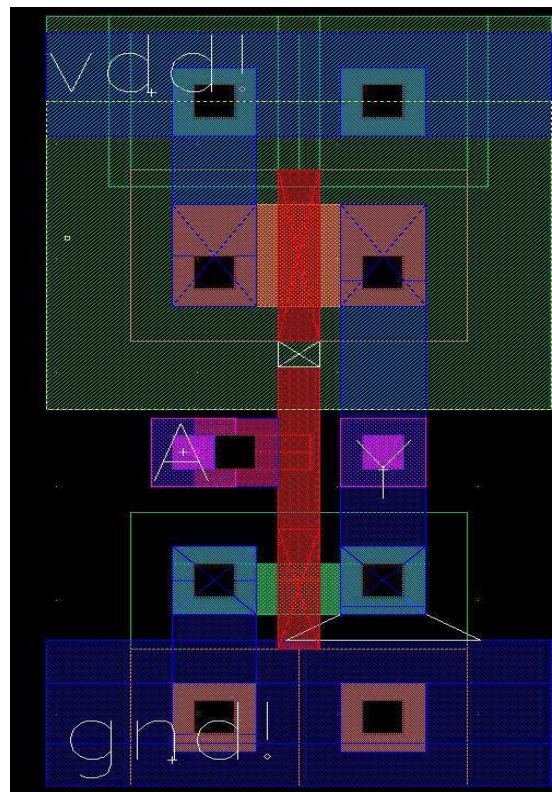

Figure 2: Inverter Layout after a DRC check showing error markers (Errors were intentionally introduced).
16. If you did everything correctly, you should already have a working physical layout of an inverter. Of course, hoping that you've created it correctly doesn't give us any assurance that it will work. The next step is to perform verification steps to make sure that our inverter does work. First, you need to make sure that all the shapes you've defined do not violate so called "process design-rules". These rules define such things as the minimum allowable width of each shape, the spacing between shapes in the same layer and on different layers and a multitude of other things. Imposing these rules allow the chip foundries to reliably create the circuits we are designing. To perform a DRC check, go to Verify->DRC and then click OK (the defaults are perfectly useable). If you didn't make a mistake, the icfb window should tell you that no errors were found in this layout. If you want, you can deliberately create an error either by creating new shapes that violate either width rules (say, a metal1 shape that is less than 450nm thick) or spacing rules (say, two metal1 shapes that are less than 450nm apart), or you can modify the current shapes in your design to come up with an error. After a DRC with errors, you should see a list of errors in the icfb window explaining what errors were found, and error markers should now be seen in the Layout, as demonstrated in Figure 2, where the lower supply rail was intentionally moved upwards, and the polysilicon connection was stretched to introduce a gap. To get an explanation of the error, go to Verify->Markers->Explain and click on an error marker. A new window should pop up with a short explanation of the error. Clicking on the error marker in the polysilicon gap tells us that polysilicon shapes should have a minimum spacing of 0.45um. If the gap was larger or equal to 0.45um, this wouldn't be flagged as an error during DRC, but obviously the circuit shouldn't work anymore since the input A is now only connected to the NMOS instead of being connected to the gate of both transistors. This error will be flagged later on during the LVS check since with this error, the layout doesn't describe the same circuit as the schematic anymore.